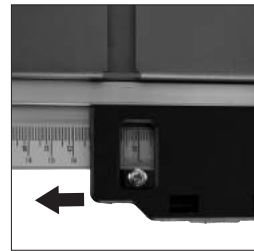

Fig. 13
- Locate the rip fence (J) in the fence rail to the RH side of the blade.
- Gently move the fence rail to the right or left until the '0' position on the scale coincides with the datum line in the magnifier. (**Fig. 13**)